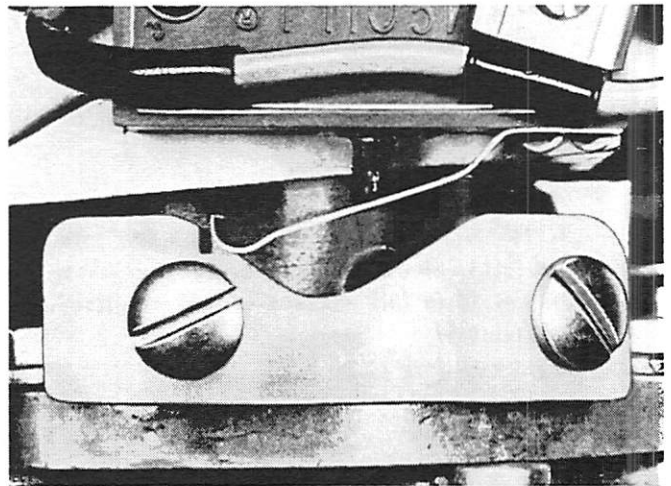

Figure 8. Reverse Interlock Switch Adjustment
2. Adjust reverse switch so that rubbing portion of spring leaf is $\frac{1}{8}$ " below top of cam. (Figure 8)